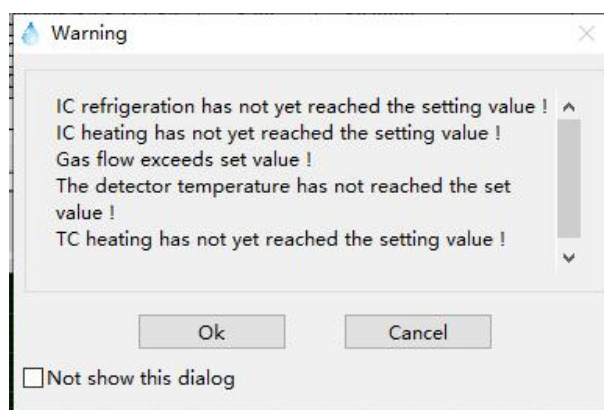

Fig 4.77
Step 4: Manually place the sample on the base of the sample bottle and select the row where the sample is located, click to start the measurement. The system will give a prompt (Fig. 4.77) if the current testing conditions do not meet the requirements. Click 'Cancel', wait the conditions to be stable, then click and there is no warning prompt popped up again. The instrument starts the cleaning process, and user can view cleaning progress to check whether the cleaning is complete.